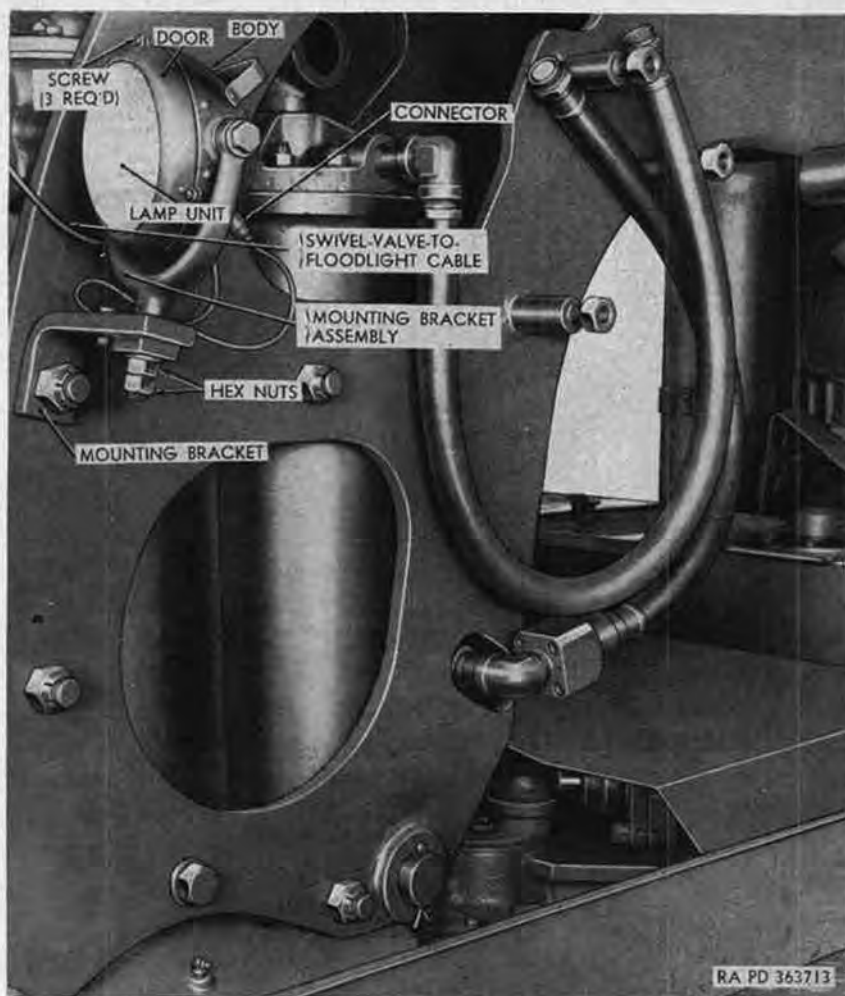

Figure 312. Floodlight mounted on left side of shipper support M62.
- (1) *Lamp-unit replacement* (fig. 312).
- (b) Disconnect two bayonet-type connectors (fig. 312) securing floodlight cables to rear of floodlight.
- (c) Remove two screws securing contact bracket and switch assembly to inside of floodlight body (fig. 312). Remove bracket and switch assembly (with cables) from body.
- (d) Position contact bracket and switch assembly in floodlight body (fig. 312), and secure bracket to body with two screws.
- (e) Connect two floodlight cable bayonet-type connectors (fig. 312) to connectors at rear of floodlight.
(4) *Floodlight removal (floodlight mounted at shipper support illustrated) (fig. 312).*
(5) *Floodlight installation (floodlight mounted at shipper support illustrated) (fig. 312).*